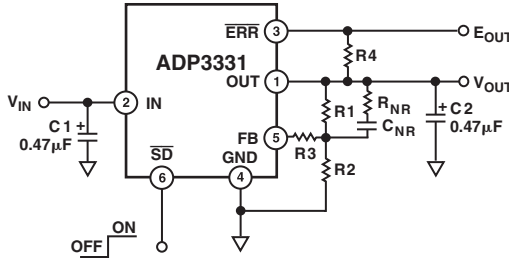

Figure 3. Noise Reduction Circuit
Noise Reduction Capacitor: A noise reduction capacitor can be used to reduce the output noise by 6 dB to 10 dB. This capacitor limits the noise gain when connected between the feedback pin (FB) and the output pin (OUT), as shown in Figure 3. Low leakage capacitors in the 10 pF to 500 pF range provide the best performance. Since FB is internally connected to a high impedance node, any connection to this node should be carefully done to avoid noise pickup from external sources. The pad connected to this pin should be as small as possible; long PC board traces are not recommended. When adding a noise reduction capacitor, use the following guidelines:
The ADP3331 has an adjustable output voltage that can be set by an external resistor divider. The output voltage will be divided by R1 and R2, and then fed back to the FB pin. Refer to Figure 3.